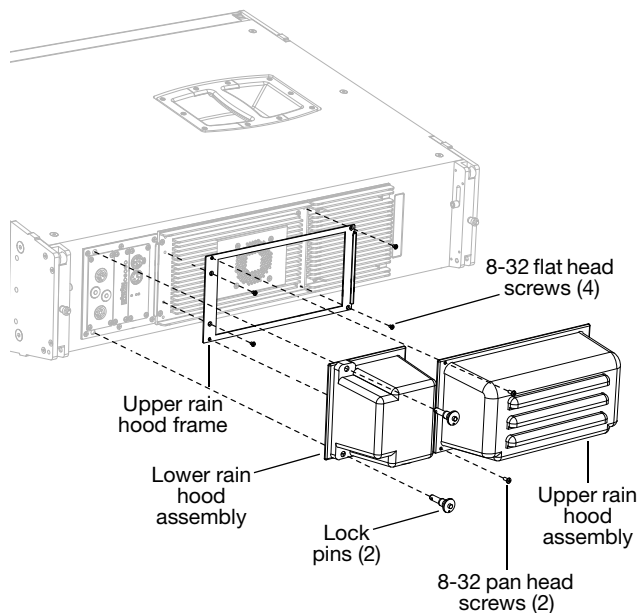

Figure 5: JM-1P Horizontal Rain Hood Installation
**NOTE:** The horizontal rain hood should only be used when the loudspeaker is oriented horizontally (see Figure 5).